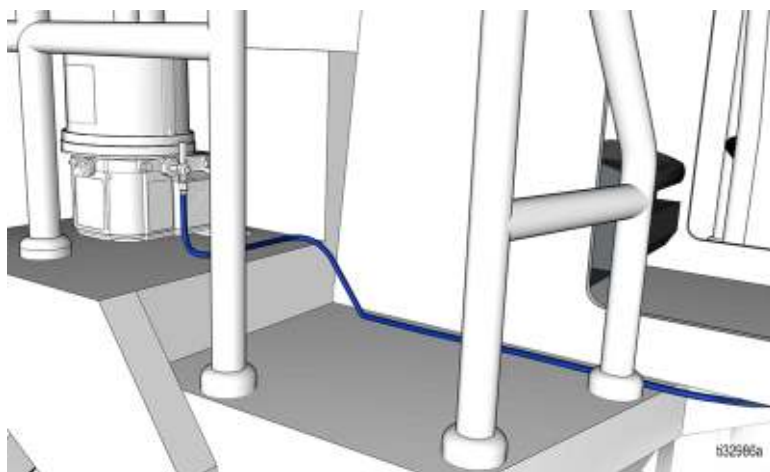
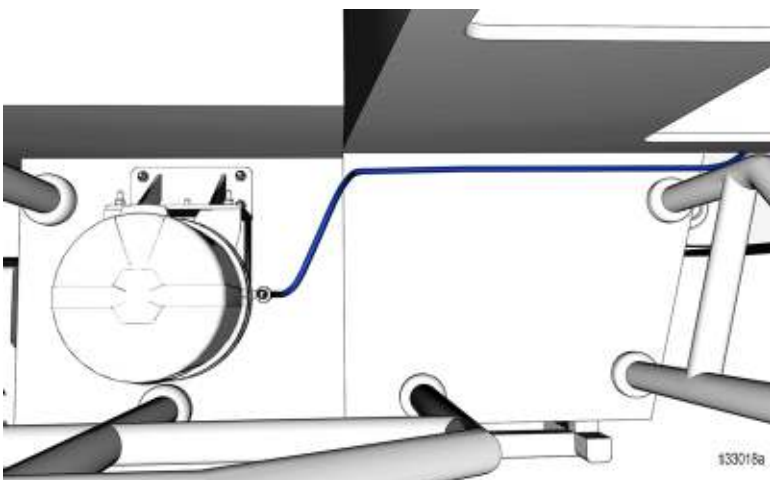

FIG. 10
FIG. 11
- The deck plate that surrounds the cab is the preferred installation location (FIG. 10 and FIG. 11). The deck plate is a non-critical component and drilling through the deck plate is generally acceptable by most manufacturers. However, if this location is not acceptable due to durability or space constraints, identify an alternate location around the cab such as below the ladder, in the engine compartment or on the frame.